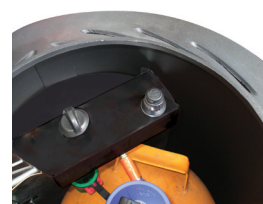

Fig.1
1. Fit battery type AA provided into ignition button. See Fig.1